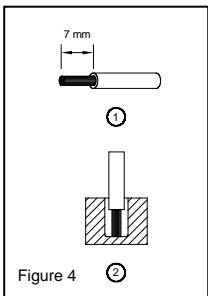

Figure 4
To secure reliable and shock proof connections, the stripping length should be 7 mm (see Fig. 4 (1)). Please ensure that wires are fully inserted into the connecting terminals as shown in Fig. 4 (2).